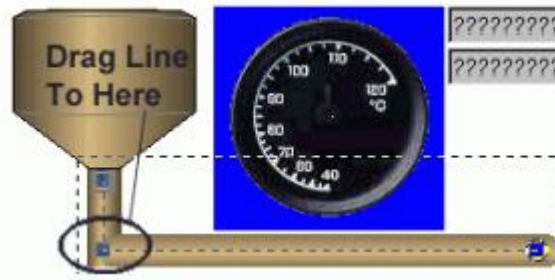

Figure 5.18. Location Dynamic Inflection Points
6. Next click anywhere on the dotted line connecting the start/end points and drag the added inflection point to the corner of the two pipes, as shown in **Figure 5.18**.